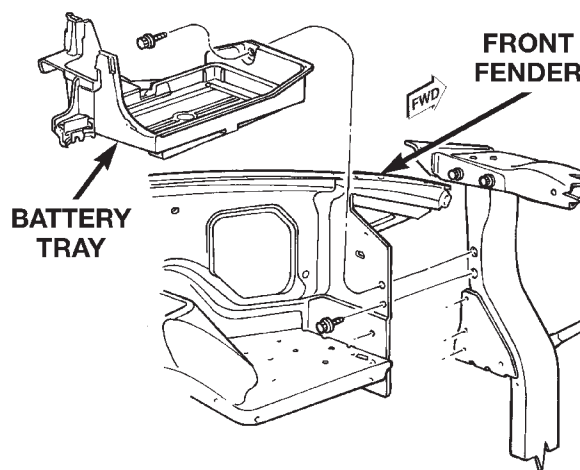
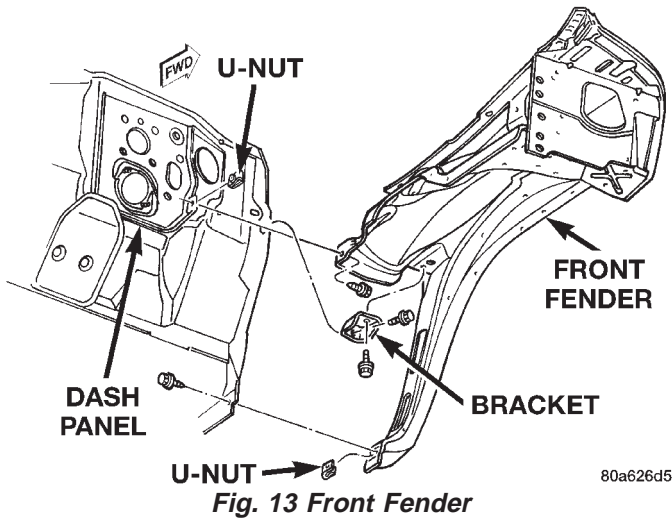
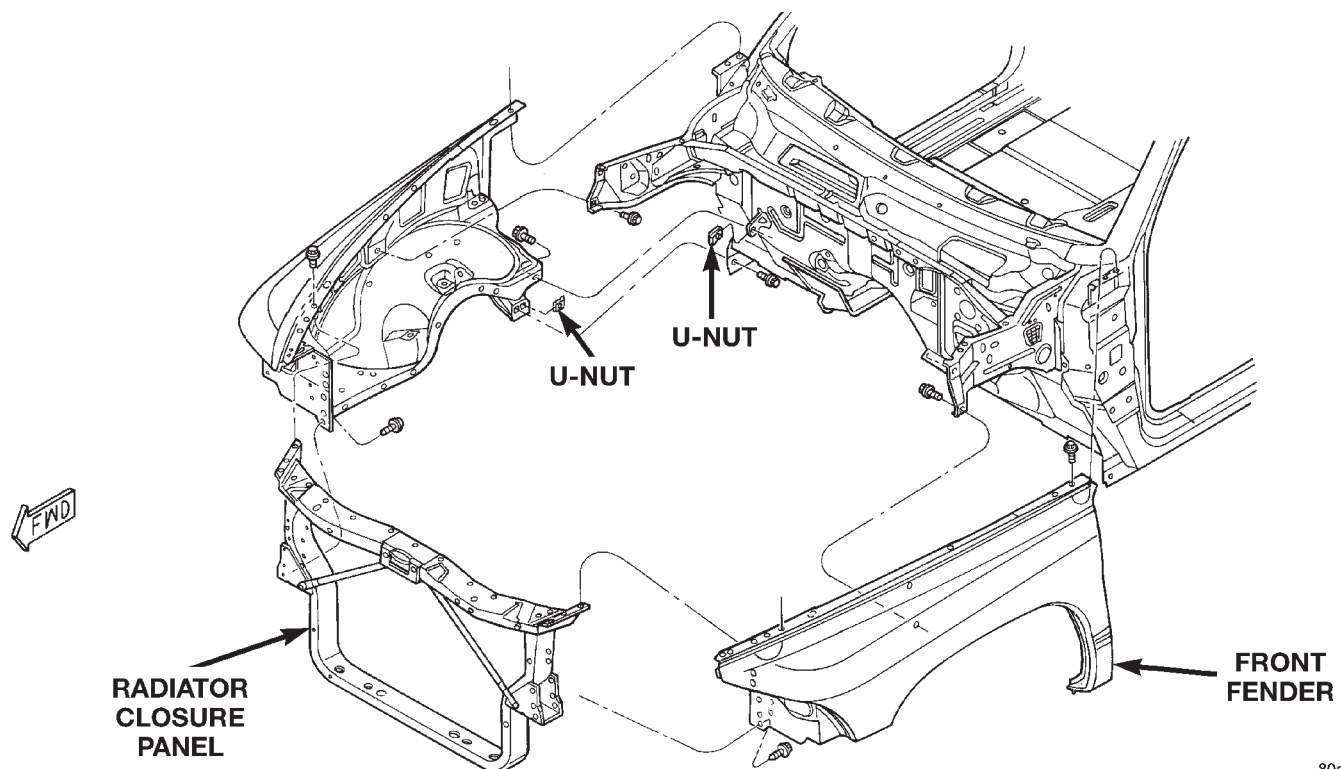

Fig. 12 Battery Tray
Fig. 13 Front Fender
Fig. 14 Front Fender
- (1) Remove battery.
- (2) Raise and support the vehicle.
- (3) Remove left front wheel.
- (4) Remove wheel opening molding.
- (5) Remove wheelhouse liner.
- (6) Remove left headlamp module.
- (7) Remove PDC (power distribution center).
- (8) Remove battery tray (Fig. 12) and battery support bracket.
- (9) Remove HCU (hydraulic control unit) if equipped. Refer to Group 5, Brakes for service procedures.
- (10) Disengage clips attaching hood release cable to inner fender.
- (11) Disengage clips attaching wire harness to inner fender and wheelhouse.
- (12) Remove bolt attaching fender to lower rocker panel.
- (13) Remove bolts attaching fender to lower radiator closure panel (Fig. 14).
- (14) Remove bolts attaching fender to hood hinge support bracket.
- (15) Remove bolts attaching fender to upper cowl (Fig. 13).
- (16) Remove bolts attaching fender to upper radiator closure panel.
- (17) Separate fender and wheelhouse from vehicle.
- (3) Remove right front wheel.
- (6) Remove right headlamp module.
- (7) Remove air cleaner element housing.
- (8) Remove powertrain control module.
- (9) Remove windshield washer reservoir.
- (10) Remove horn.
- (11) Disengage clips attaching wire harnesses to inner fender and wheelhouse.
- (15) Remove bolts attaching fender to upper cowl.